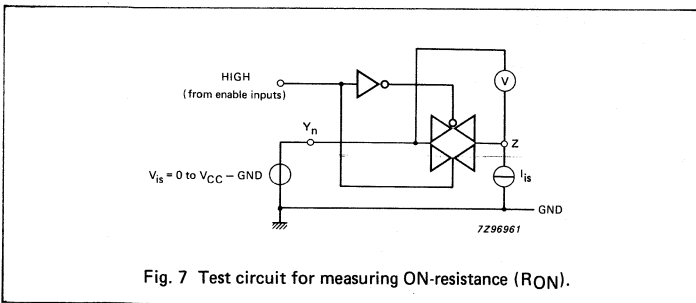

Fig. 7 Test circuit for measuring ON-resistance (R_{ON}).
- For test circuit measuring R_{ON} see Fig. 7.